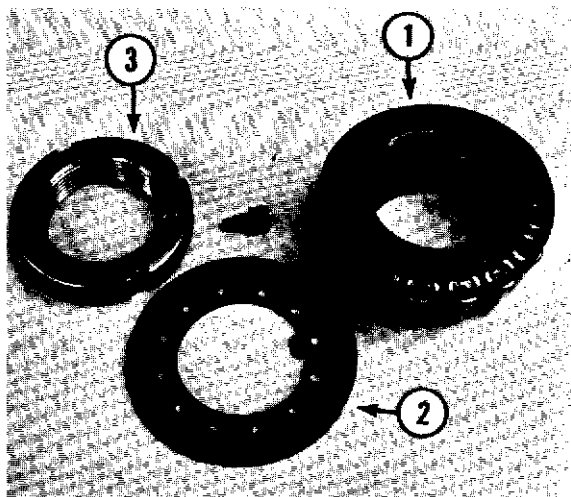

Fig. 10-20
- C. Install the bearing (1, Fig. 10-20), tongue washer (2, Fig. 10-20) and the locknut (3, Fig. 10-20).